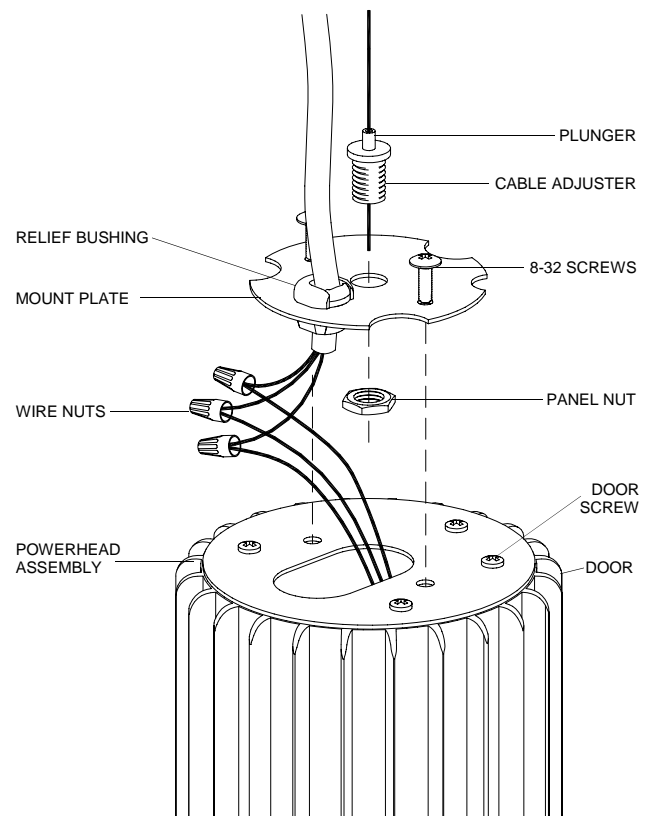

Fig. 2
POWERHEAD INSTALLATION (fig. 2):
1. Attach CABLE ADJUSTER to MOUNT PLATE with PANEL NUT. **Note: On 9" unit MOUNT PLATE must be oriented correctly to clear DOOR SCREW head (see fig. 2).**